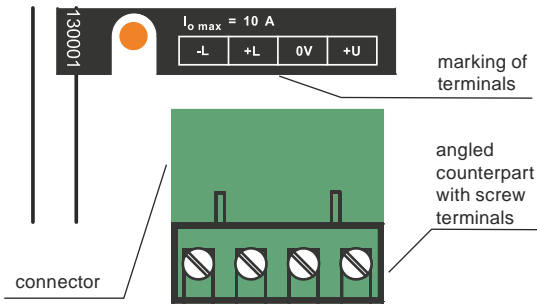

Fig. 4: Detailed view of screw terminals
1. Connect counterpart with screw terminals to the connector on the sensor (see Fig. 4). (This terminal block is included in standard accessories either as straight or angled variant.)